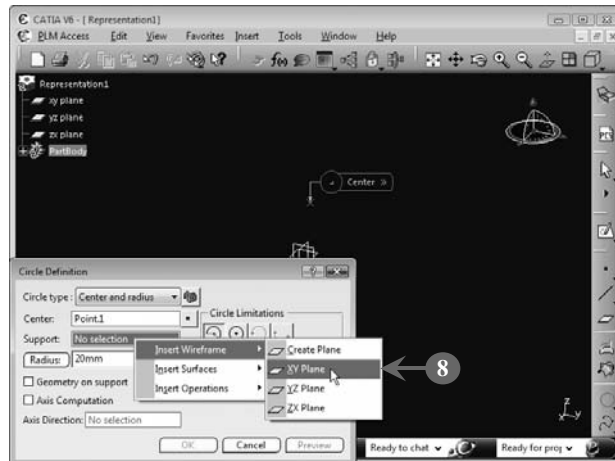

FIGURE 5.21
The center of the circle is added to the **Center** box in the **Circle Definition** dialog box (Figure 5.21).
- Right-click* inside the **Support** box and *select* the **Insert Wireframe > XY-Plane** option from the context menu to select the *xy*-plane as the support surface for the circle, as shown in Figure 5.21: